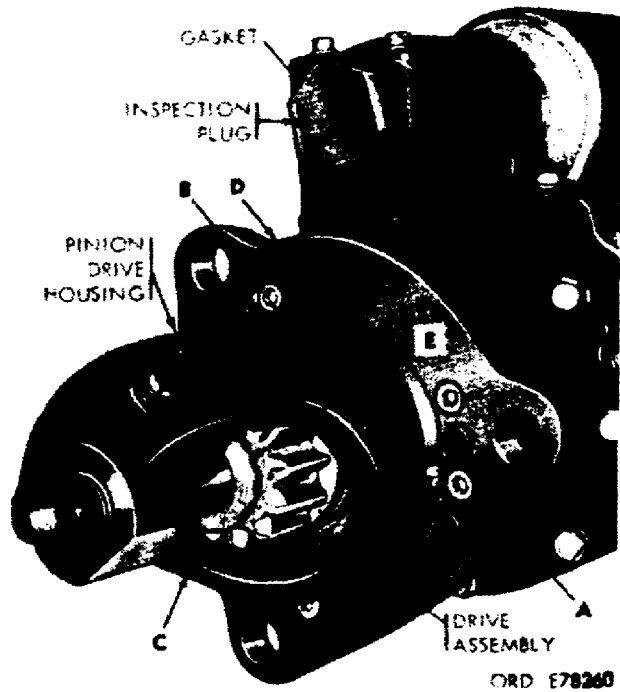
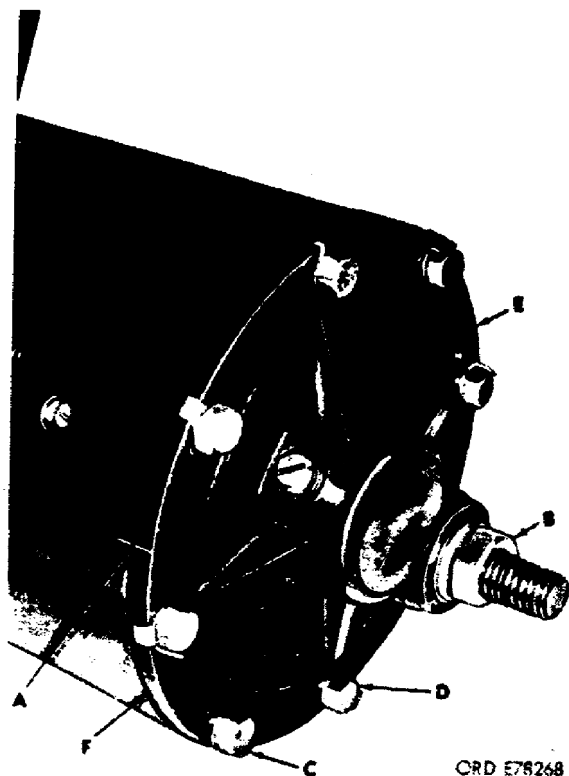
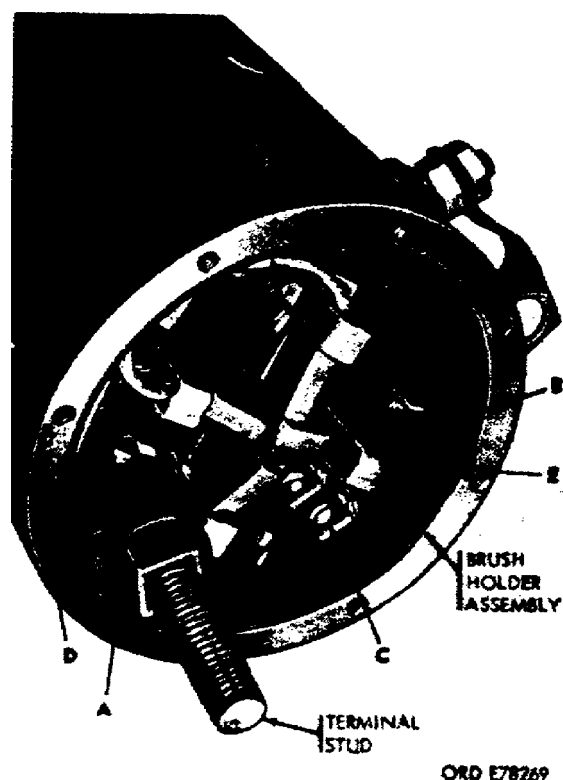

Figure 9. Pinion housing.
Figure 17. Commutator end head assembly.
Figure 18. Brush holder assembly.
(1) The position of the pinion housing with respect to the intermediate housing should be noted, so that they may be reassembled as they came apart. Therefore, it is a normal procedure to scribe a mark on the pinion housing and the intermediate housing to locate the relative position at assembly.
(2) Remove the six socket-head capscrews (B) (fig 9). This allows the pinion housing to be removed from the intermediate housing with the attached gaskets. The thrust washer (E) is loose so it should be removed from the armature shaft.
f. Before removing the commutator end head assembly, scribe a mark on the end head to locate the relative position (fig 17).
(1) Next free the terminal stud of the hex-nut and associated washers.
(2) Bend the metal locking taps outward, remove the hex-head capscrews, and then the commutator end head assembly.
g. To remove the brush holder assembly, take off the bushing and insulating washer from the terminal stud; then remove the insulation around the brush holder. Remove the roundhead screws and self-tapping screws securing the brush leads and holder. Take out the brush holder assembly (fig 18).
10. ASSEMBLY. In assembly it is important that the reverse procedure of disassembly be followed. A thread sealer should be applied to the pole shoe screws, pipe plugs, and solenoid relay mounting screws before assembly. The bronze bearing bushings have oiler holes; these holes must be alined with the oiler holes in the pinion drive housing (fig 9), intermediate housing (fig 15), and the commutator end head (fig 17).